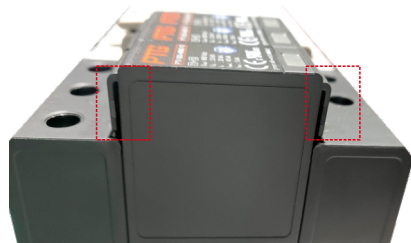

Figure 7.3
5. Press and hold the spring clip on the upper and lower sides of the damaged surge protection module and remove it.(See Figure 7.3)